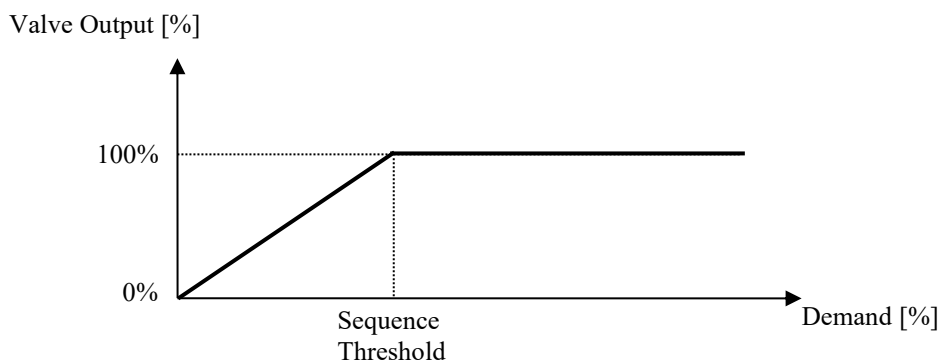

Figure 25: Scaling before sequence threshold
- Before Threshold (0): Scaling before the sequence threshold, see Figure 25